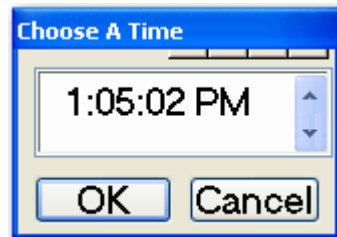

Figure 37 Drop-down clock
1. Select the appropriate field in the patient **Time of Birth** column. This will open a digital clock showing the time in the HH/MM/SS/AM-PM format (Figure 37).
1. Select the appropriate field in the patient **Time** column. This will open a digital clock showing the time in the HH/MM/SS/AM-PM format (Figure 37).